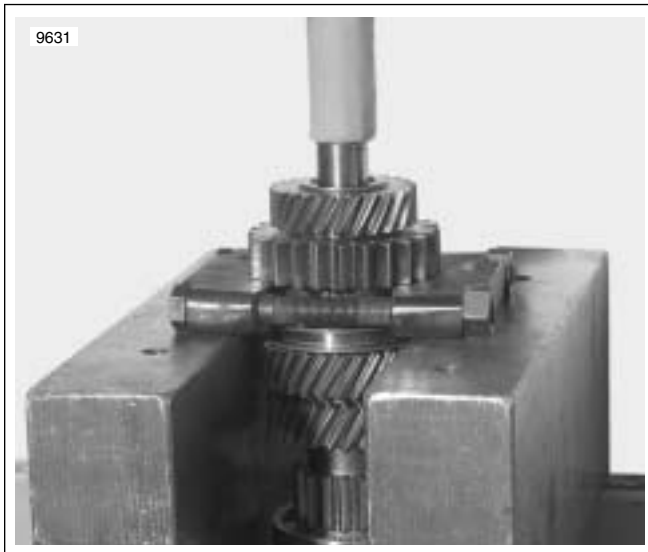

Figure 7-42. 2nd and 5th Gear Removal
5. See Figure 7-42. Place a puller clamp behind 5th gear and press off 2nd and 5th gear. Support the input shaft when removing the gears.